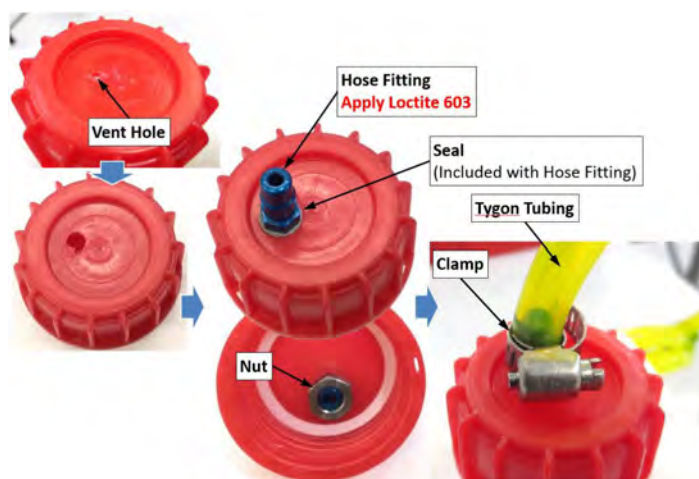

FIGURE 17-35
- b. Apply LOCTITE® 603 to the threads of a 5058K34 hose fitting. Insert the hose fitting with its seal into the vent hole as shown in Figure 17-35.